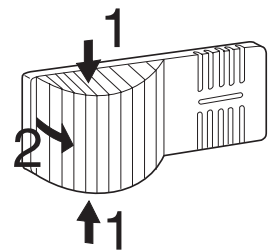

Figure 31
2. Press the light cover together at the sides (Fig. 31, 1). Lift it out and unclip at back (Fig. 31, 2).